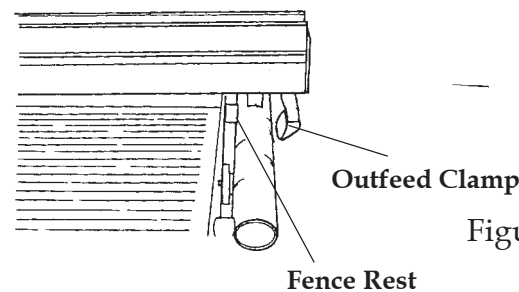

Figure B-89
67. Check to see if the fence rest fully contacts the outfeed table tube, as shown in Figure B-89.